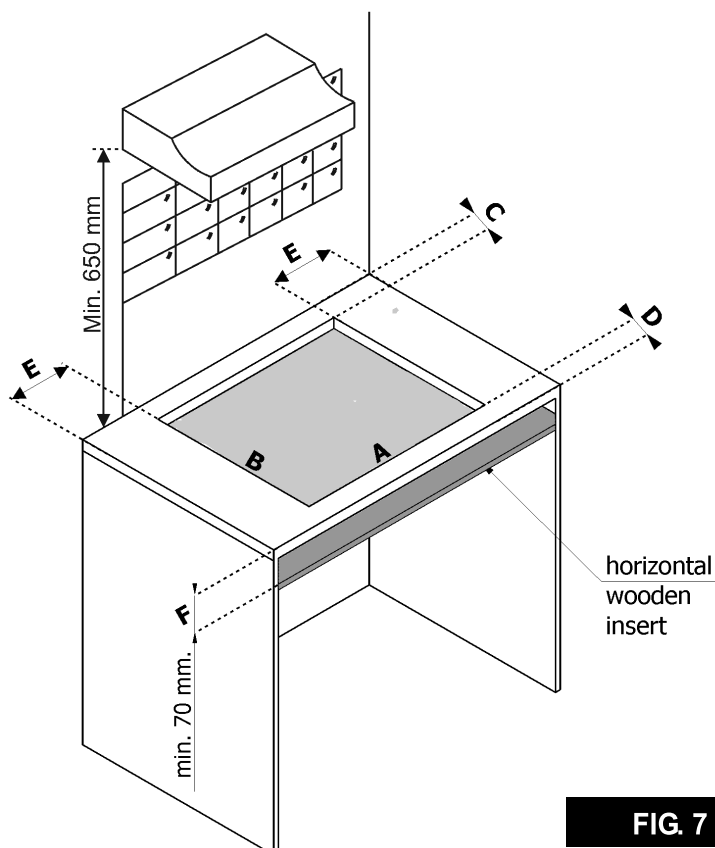

FIG. 7
The measurements of the opening made in the top of the modular cabinet and into which the hot plate will be installed are indicated in either fig. 7 - 8. Always comply with the measurements given for the hole into which the appliance will be recessed (see fig. 7 - 8).
- In order to avoid accidental touch with the overheating bottom of the hob, during the working, is necessary to put a wooden insert, fixed by screws, at a minimum distance of 70 mm from the top (see fig. 7).